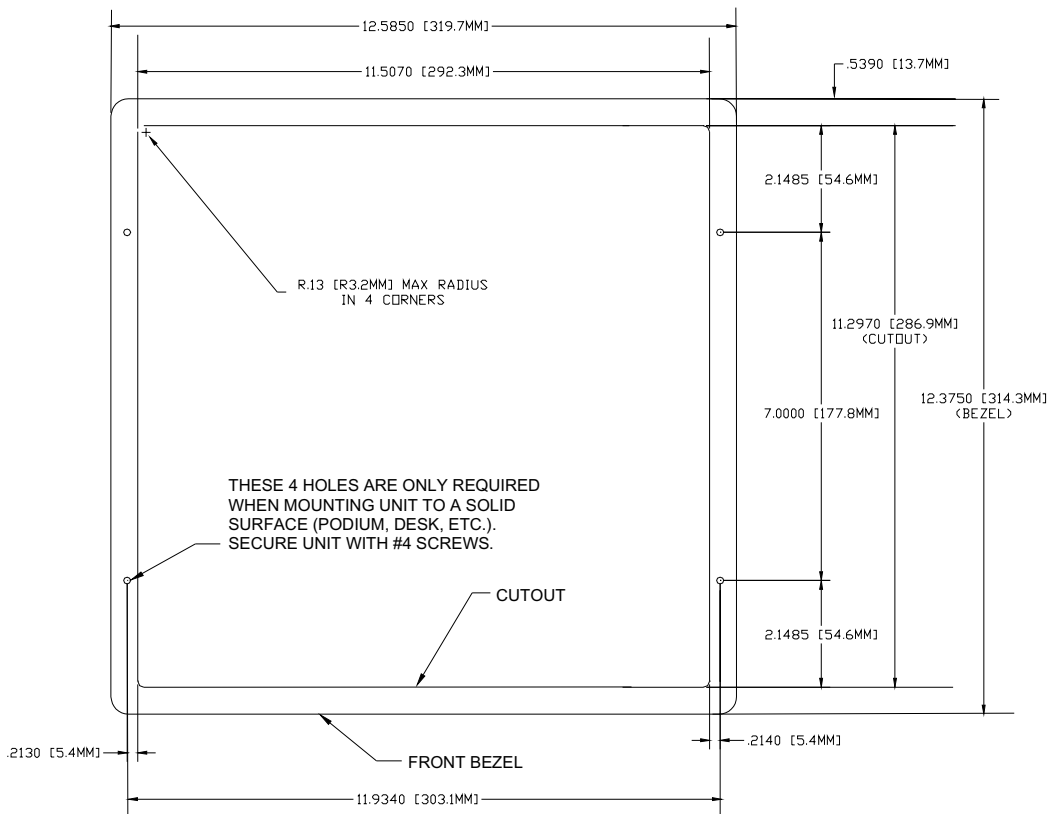

FIG. 40 NXD-1200V Wall Mount panel dimensions using #4 mounting screws
2. Cut out the surface for the **12-inch Wall Mount** using the dimensions shown in FIG. 40.